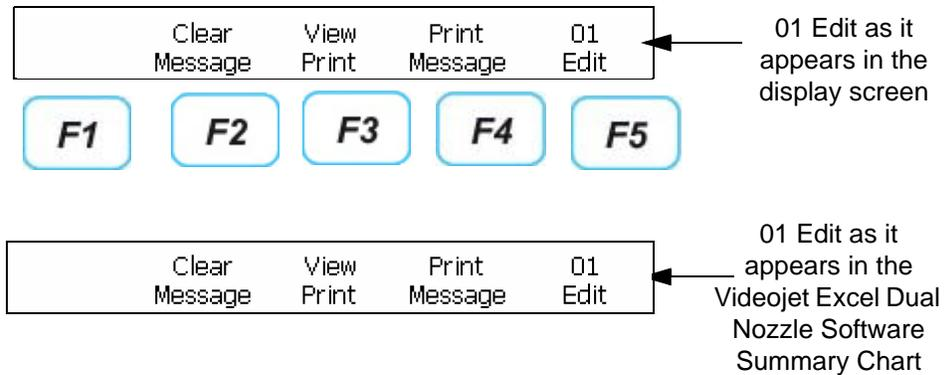

Figure 5-1: Frame <01> Edit
When you turn on the printer, Frame <01 Edit> appears on the display screen. The Software Summary chart begins with this frame. Refer to the Software Summary chart at the end of this chapter to find the <01 Edit> frame. Also refer to Figure 5-1 on page 5-2 for illustrations of Frame <01 Edit>.
**Note:** The name of the frame (for example, Frame <01 Edit>), is the text that appears in the area above the F5 key. Refer to Figure 5-1.